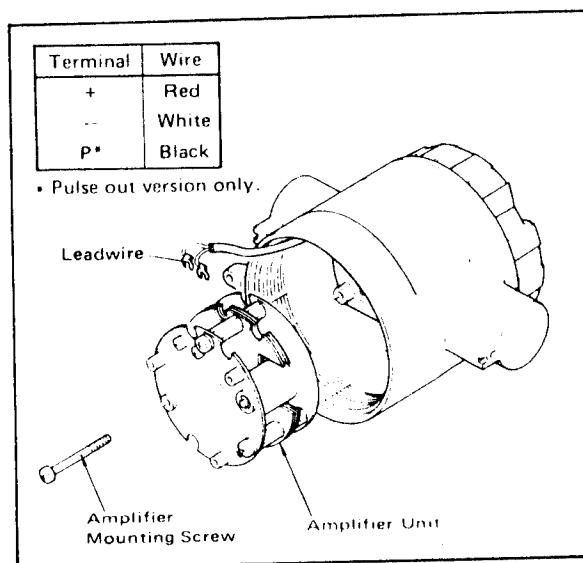

Figure 6-7. Removing Amplifier Unit.
Replace the amplifier unit as follows (see Figure 6-7).
- (1) Turn the power OFF.
- (2) Remove the converter cover.
- (3) Remove the indicator or totalizer according to the procedures described in paragraph 6-3-1.
- (4) Loosen the terminal screws and remove leadwires. (An analog output amplifier uses two leadwires and a pulse output amplifier uses three leadwires.)
- (5) Loosen the three amplifier unit mounting screws and remove the amplifier unit as shown in Figure 6-7.
- (7) When reinstalling the amplifier unit in the converter, match the connector pin positions with the socket. Push the amplifier unit back to position.
- (8) Tighten the amplifier mounting screws.
- (9) Reconnect the leadwires to the amplifier unit. The leadwires must be connected to the proper terminals. See Figure 6-7 for the correct leadwire connections.
- (10) Adjust span as per paragraph 6-2-2.